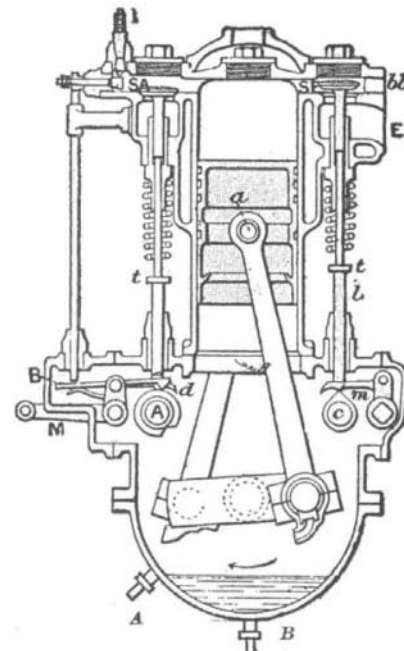
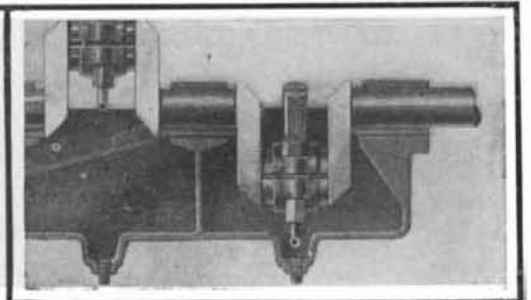

Fig. 5.—SPASH SYSTEM OF LUBRICATION.
Fig. 7.—CRANKSHAFT LUBRICATION BY THE SCOOP SYSTEM.
**The Splash System (Fig. 5).**—This system is extensively used to lubricate the motor and transmission. The crank case is filled up to a certain level with cylinder lubricating oil, in which the revolving crankshaft and connecting rods dip, splashing the oil over the crank-case interior. In some cars the entire motor is lubricated by the splash system (cylinders, camshafts, and connecting rods). To replenish the lubricating oil in the crank case, the drain plugs on the bottom are first unscrewed to let the old oil run off. The crank case is then washed out with kerosene. This done, the drain plugs are screwed up tightly, and the pet-cock on the side of the base is opened. Oil is then filled in until it starts to run out of the pet-cock, which indicates that the proper level inside has been reached. This should be done every two weeks, besides daily pumping in a small amount with the dashboard hand pump, especially when touring. Usually, however, the cylinders and main bearings of the motor are lubricated by a dashboard oiler (force feed lubricator or pressure feed tank), and only the connecting rods are lubricated, Fig. 7, the oil being taken up through small copper tubes fastened to the connecting rod caps, from small troughs cast into the base chamber. Gears in transmission cases are also lubricated by this system. The oil level should be kept at least ½ inch below the lowest part of the gear-shaft bearing; otherwise the oil is liable to flow out of the case through one of these bearings. Light oil should be used when the main shaft bearings are of the plain type, some of the oil splashed by the gears being depended on to lubricate them. When ball bearings are used, a fairly light grease free from acid will do good service (vaseline).